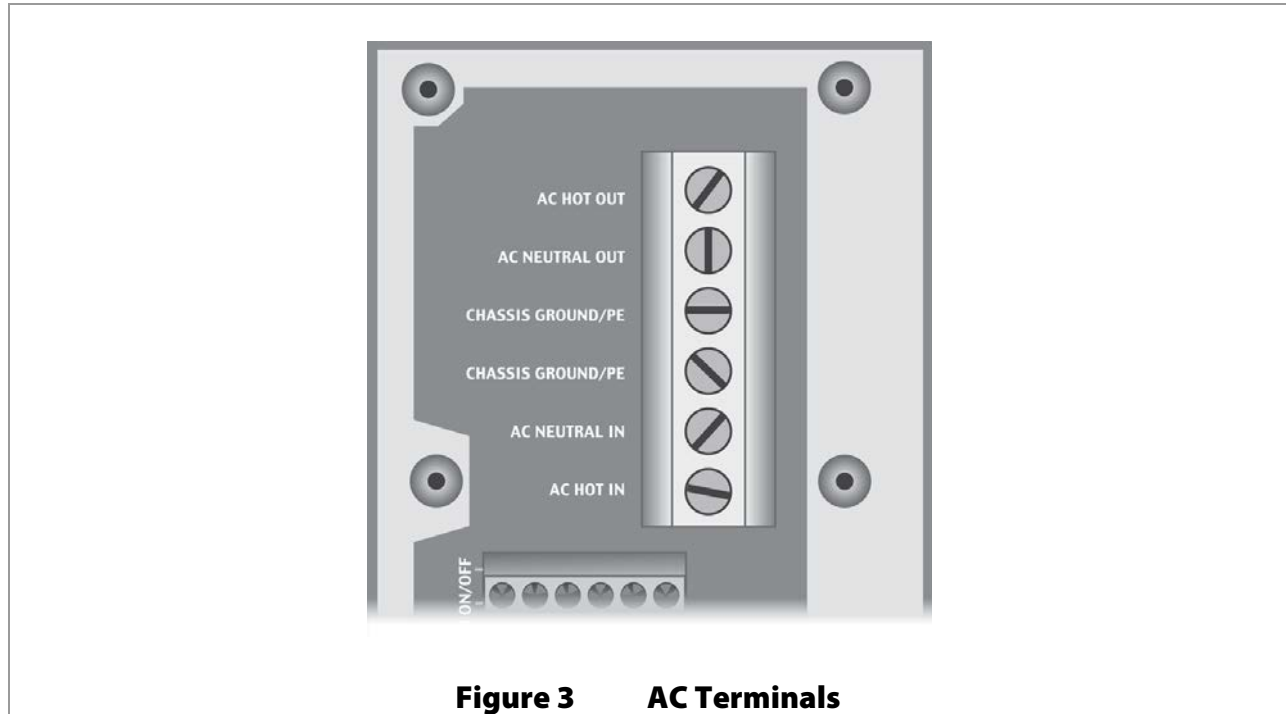

Figure 3 AC Terminals
4. Using a DVM or voltmeter, verify 230 Vac (or appropriate voltage) between the AC HOT OUT and AC NEUTRAL OUT terminals. (See Figure 3 for AC terminals.) The inverter is working correctly if the AC output reads within 10% of 230 Vac or the programmed output voltage.